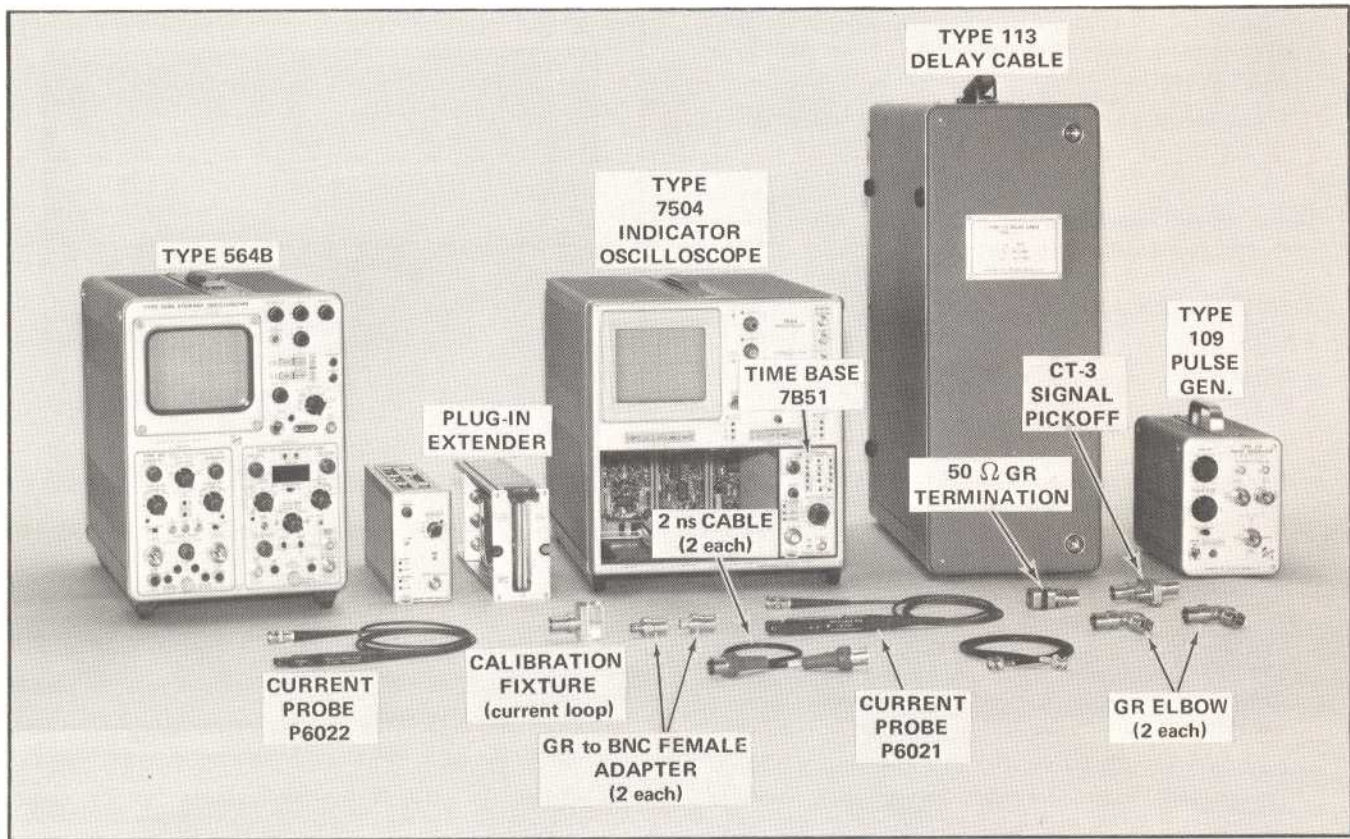

Fig. 5-4. Test equipment setup for step 7.
①
- Test equipment setup is shown in Fig. 5-4.